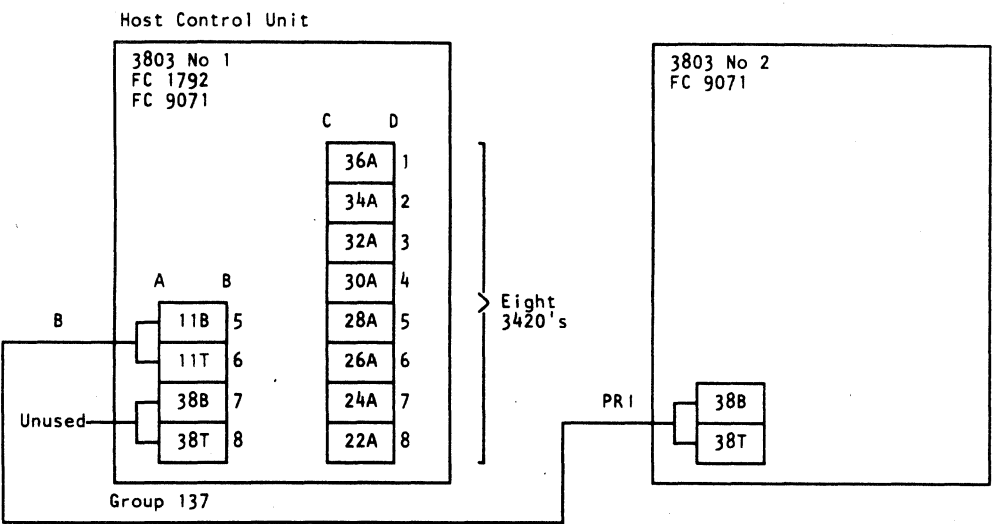

Figure 1. 2 x 8 Switch Option
Using a combination of the Communicator and the 2, 3, or 4 Control Switch, two, three, or four interconnected tape controls can address a maximum of 16 tape units. Figures 1 through 6 show some possible switching configurations and cabling.
- [1] The dark gray end of the signal cable is indicated by the arrow tip. (See Figure 1, 90-060.)